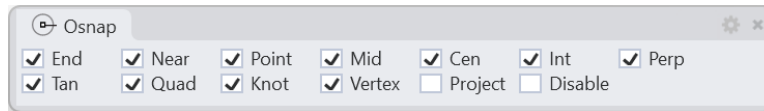

Figure 35: Rhino status bar.
7. Activate **Osnap** (Object Snap) near bottom-left side of the screen (Figure 35). Make sure that all checkboxes designating what to snap to are checked, as shown in Figure 35.